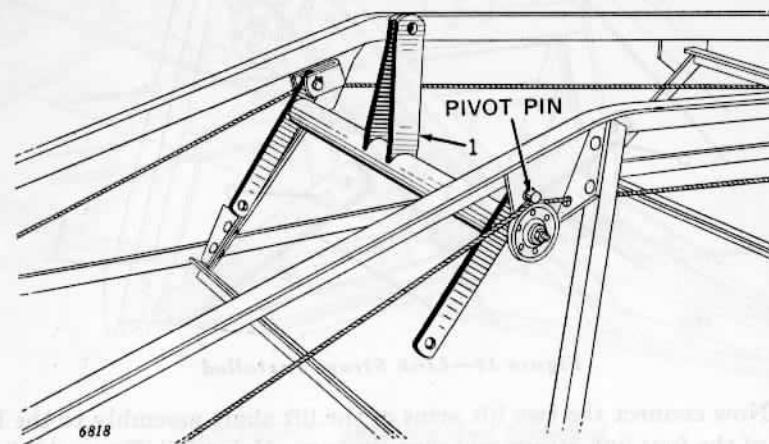

Figure 16—Bell Crank Shaft Installed
1. Install lift shaft assembly (in box) as shown in Figure 16. **NOTE:** The two pivot pins must be installed with the long ends extending out over the two sheaves as shown in Figure 16.